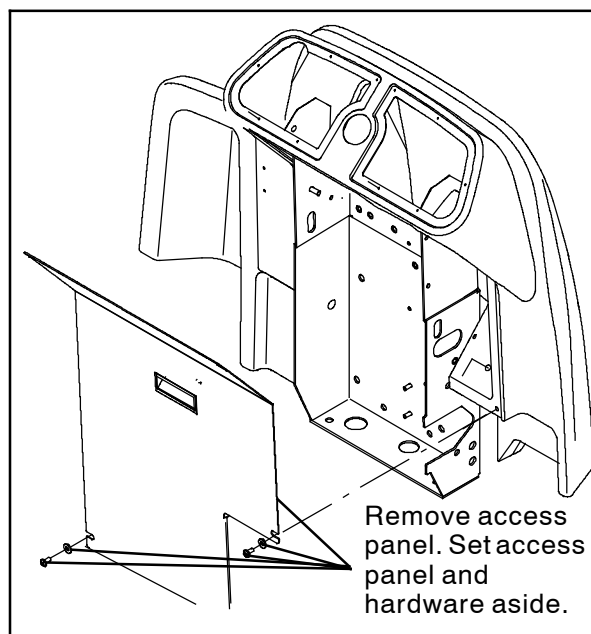

FIG. 1
1. Remove the access panel from the machine. Set the access panel and hardware aside. (Fig. 1)